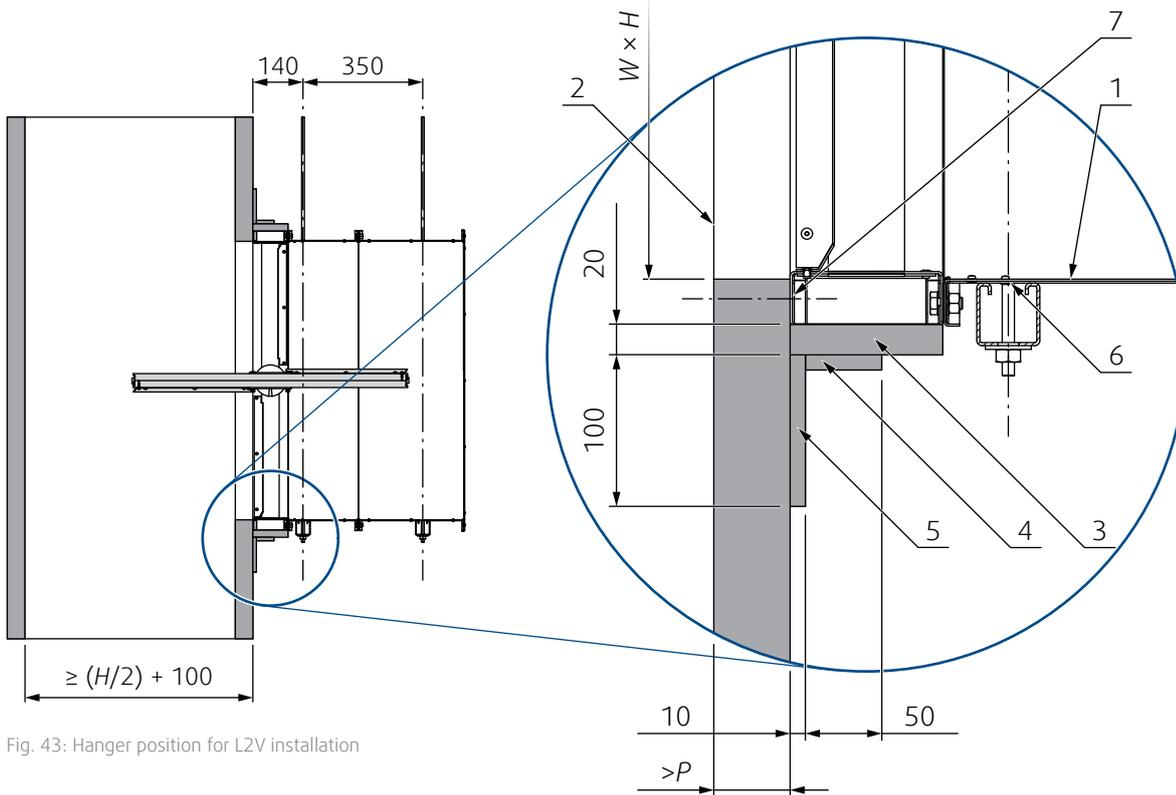

Fig. 43: Hanger position for L2V installation
1. Prepare the duct connection or opening as per  Fig. 43, clean and flatten the connecting surface.
2. Apply a fire resistive coat (8) on the connection surfaces as depicted in the detail in Fig. 43.
4. From boards (4 and 5) create a collar overlapping the connection as depicted in Fig. 43.
5. Fix the overlapping collar to the damper with screws (5). Fix the collar to the duct by using screws as per instructions of duct system manufacturer.